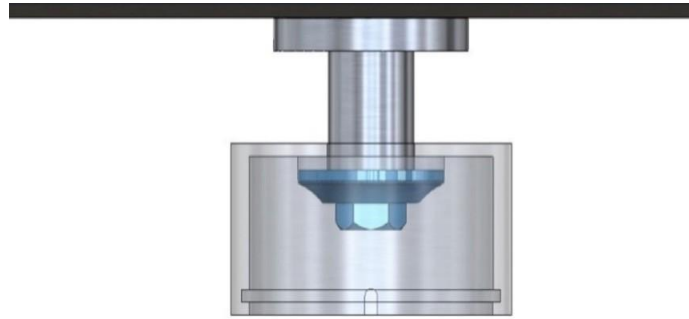

Figure 3.2 Installation of the tip holder and enclosure.
- 3.4. Screw in the indenter tip holder (blue) and enclosure as per Figure 3.2. First, attach the top enclosure and then screw in the indenter tip with your fingers. Use the 10 mm Hex wrench supplied with the PLX-HotStage to tighten the tip.